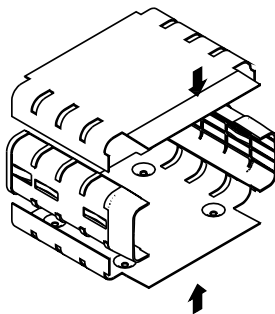

Figure 3: Cradle Reassembly
- 1 Reassemble the cradle by clipping one plastic side moulding to each side of the mounted metal cover (as shown in Figure 3). Take care to locate the ribs on the plastic part in the slots on the shoulders of the metal cover. They will only fit one way round.